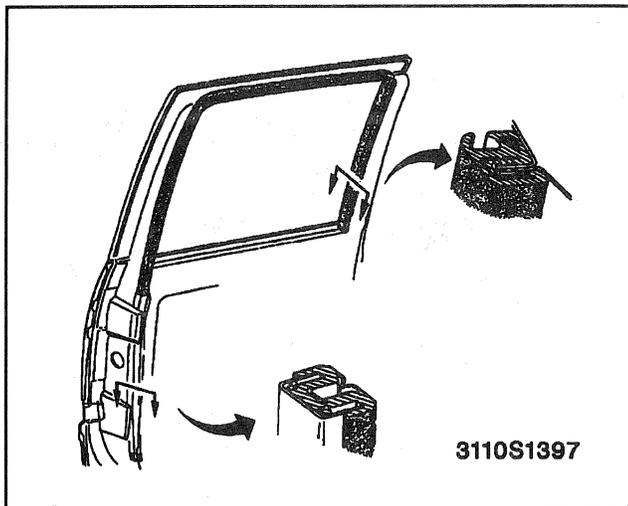

Figure 74—Rear Door Window Weatherstrip
4. Glass weatherstrip (Figure 74).
2. Glass weatherstrip (Figure 74).
→← Remove or Disconnect (Figure 74)
→← Install or Connect (Figure 74)